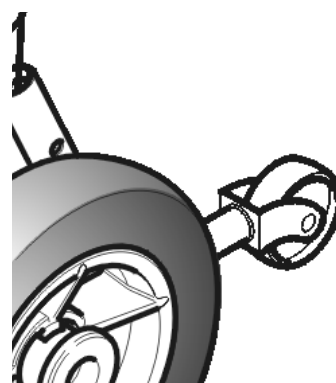

Fig. 2
The maximum safe slope of your Apollo Outdoor powerchair is 6°. DO NOT attempt to traverse or descend slopes that are in excess of this figure, fit anti-tipping levers (Fig. 2) for slopes and outdoor use.
1. Anti-tipping levers are fitted (Fig. 2).